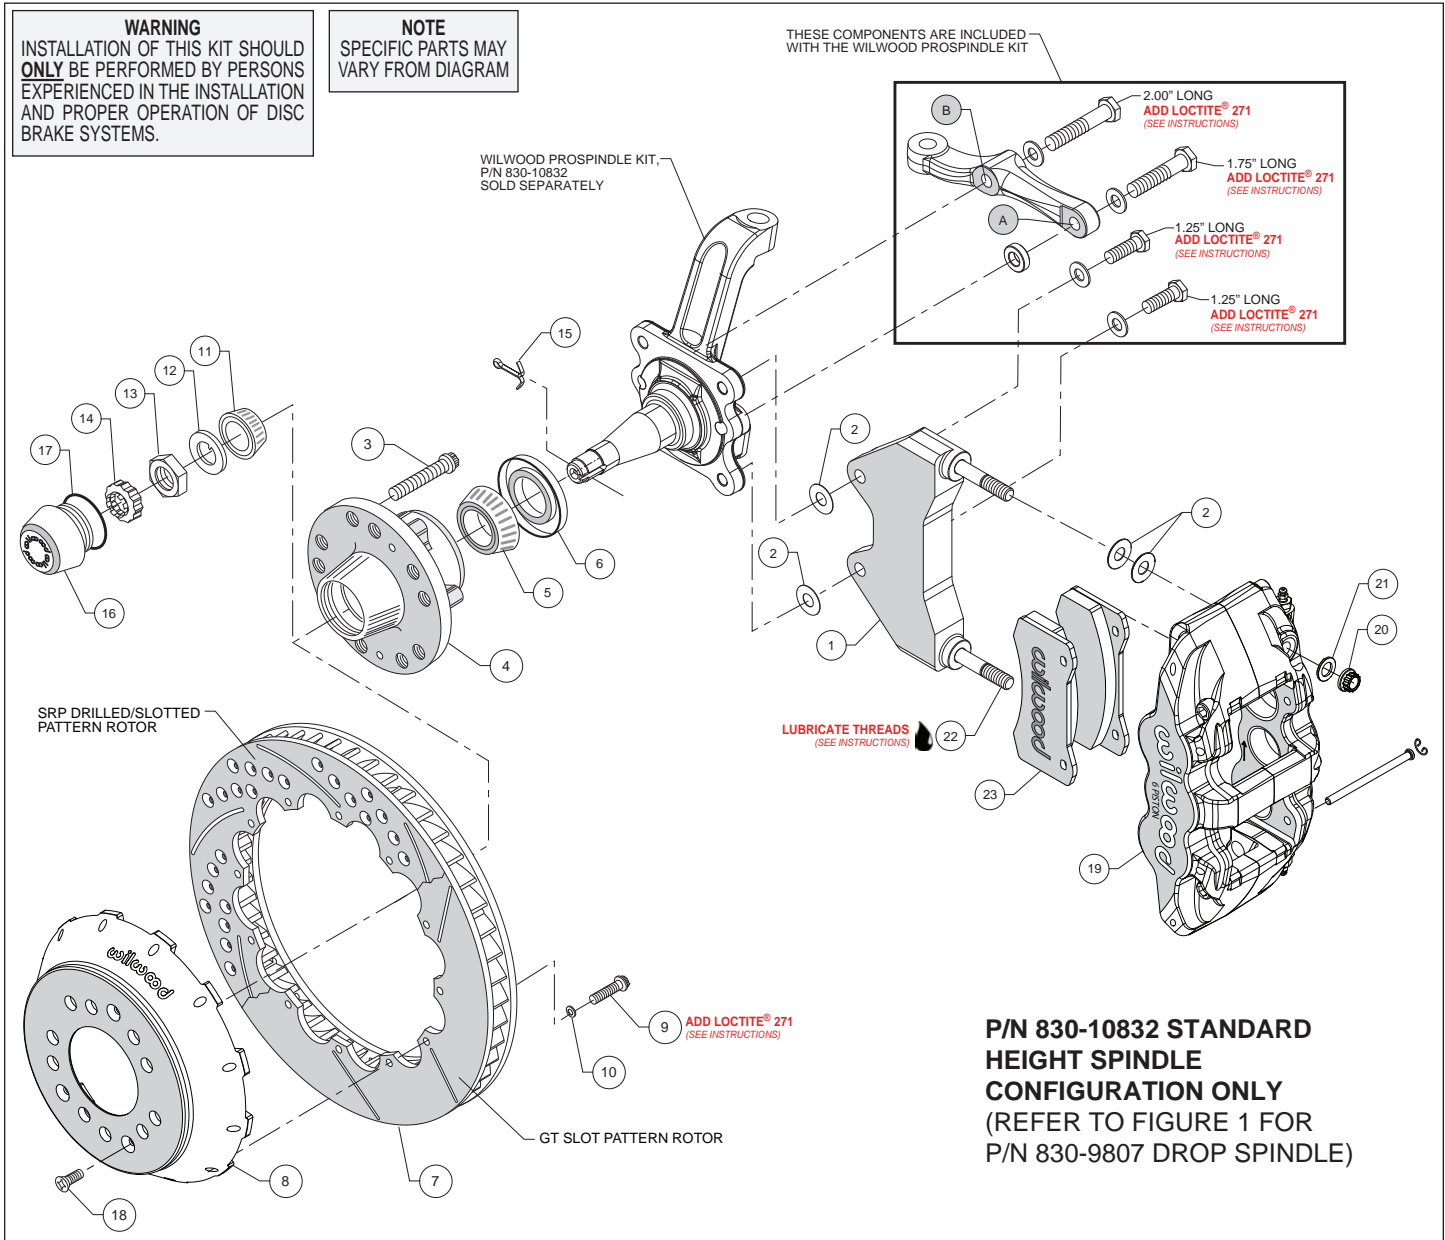

Figure 2. Installation Configuration For Standard Height Spindle, P/N 830-10832
- Orient the bracket as shown in Figure 2 and Photo 2. Install using 1.25" long bolts and .06" thick washers (from ProSpindle kit), and one .030" thick shim (2) on each bolt between the bracket and spindle, Figure 2. Temporarily tighten mounting bolts. **NOTE:** The bracket must fit squarely against the mounting points on the spindle. Inspect for interference from casting irregularities, machining ridges, burrs, etc. Later, after the caliper alignment has been checked, the mount bolts will be secured using red Loctite[®] 271.
- Orient the steering arm, and identify the hole marked 'A', as shown in Figure 2. Install using 1.75" long bolt, .06" thick washer, and .30" thick spacer (all from ProSpindle kit), Figure 2.
- Finish attaching the steering arm through the hole marked 'B', as shown in Figure 2. Install using 2.00" long bolt and .06" thick washer (from ProSpindle kit), Figure 2.
- Install wheel studs (3) into the hub (4), Photo 3. Torque to 77 ft-lb. **NOTE:** There are two five lug patterns in the hub (5 x 4.50 and 5 x 4.75). Ensure the correct hub stud pattern is being used to fit the wheel application.